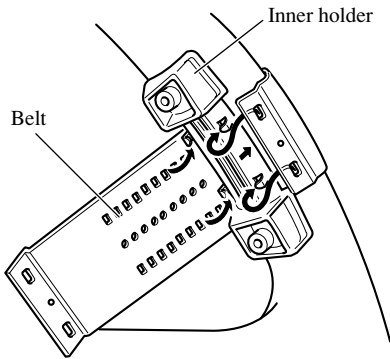

Fig. 8
1. Secure inner holder to the inner circumference of the steering wheel with belt. (Fig. 8)